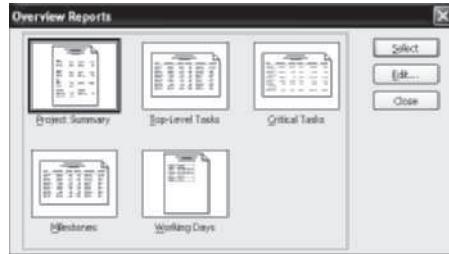

FIGURE A-37 Accessing the Critical Tasks report
3. *Open the Reports dialog box.* Click the **Project** tab, and then click the **Reports** button under the Reports group. Double-click Overview to open the **Overview Reports** dialog box. Your screen should resemble Figure A-37.